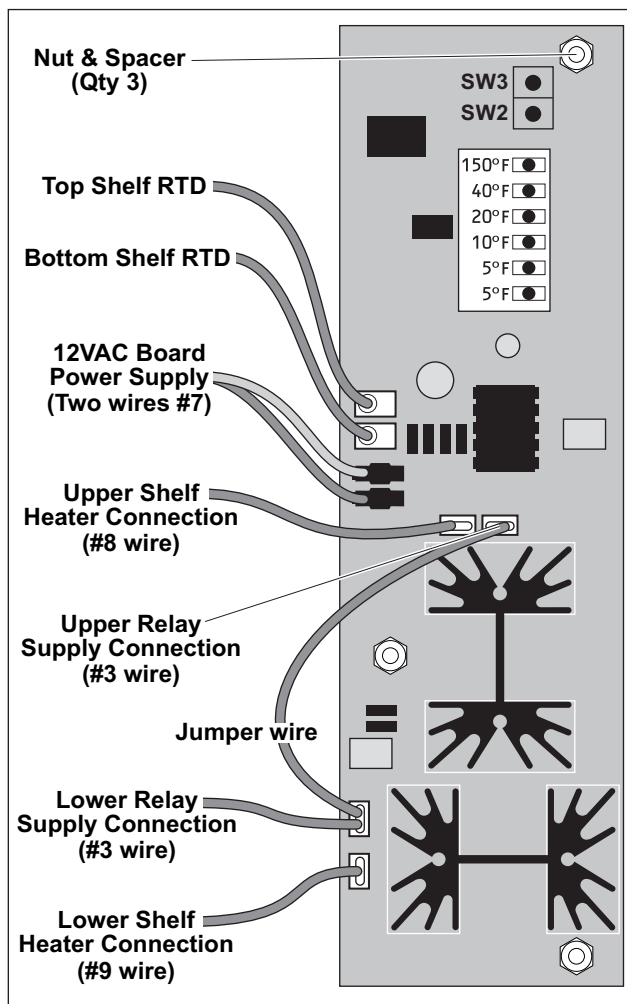

Figure 28. Control Board
The FWM Controller (Control Board), Figure 28, is attached to the inside of the front panel and can be accessed by removing the right side panel.
3. Refer to Figure 28, and reattach all wires to the Control Board.